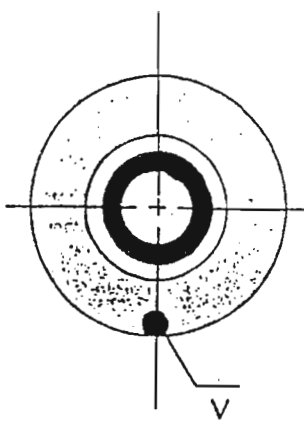

Fig 4
2. Let the wheel swings to find out the center of gravity and then mark with a (✓), (Fig 4)